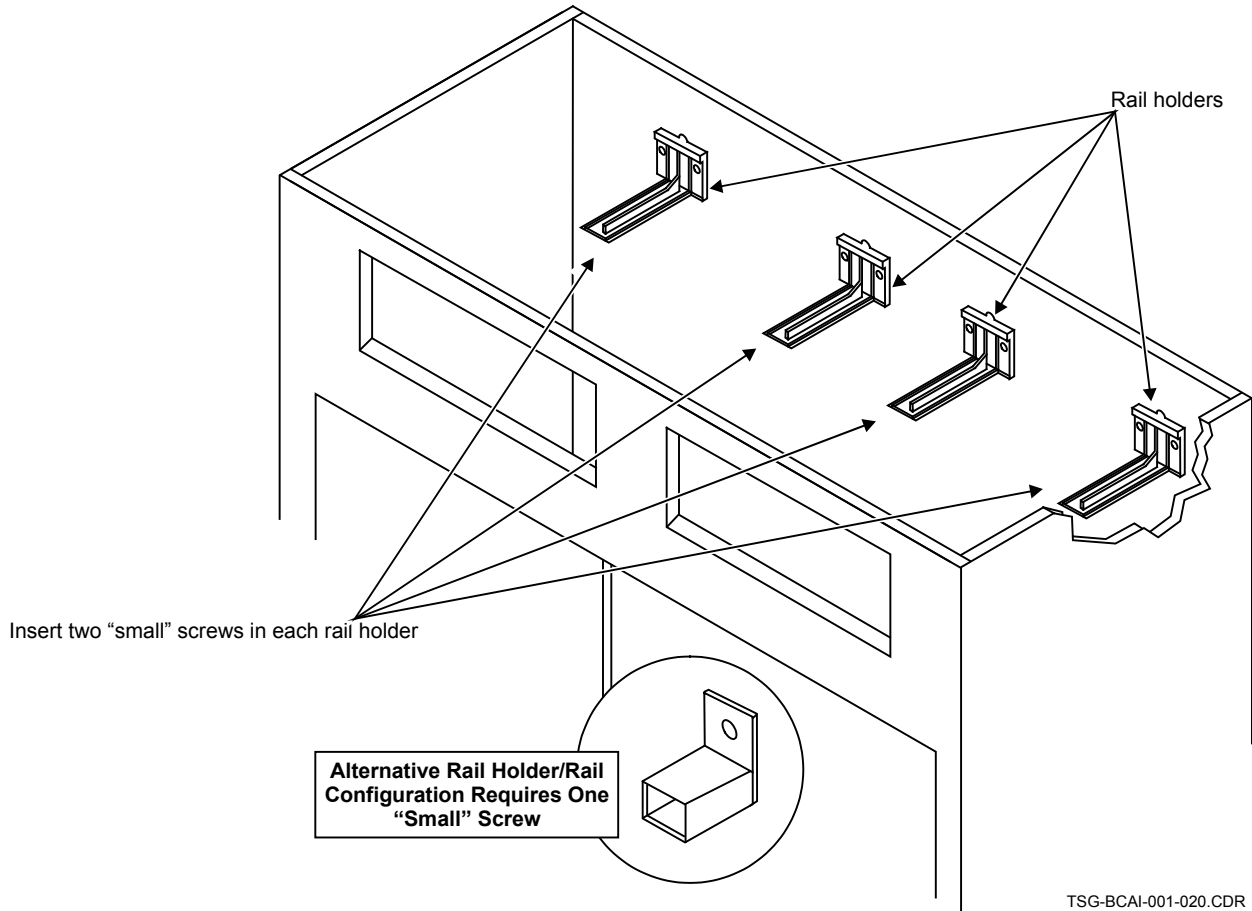

Figure 19 — Insert Rail Holders and Secure with Four “Small” Screws
- (8) Repeat the steps above for the second and any additional drawers.
- (9) Referring to Figure 19, insert the four rail holders in the inside back of the cabinet and secure them with eight “small” screws (two “small” screws each).
NOTE: The inset in Figure 19 shows an alternative rail holder/rail configuration. Rail holders and rails are model specific and may appear different than shown in Figure 19 and Figure 20. If your base cabinet has the alternative configuration, the rail holders will require only one “small” screw each, rather than two.